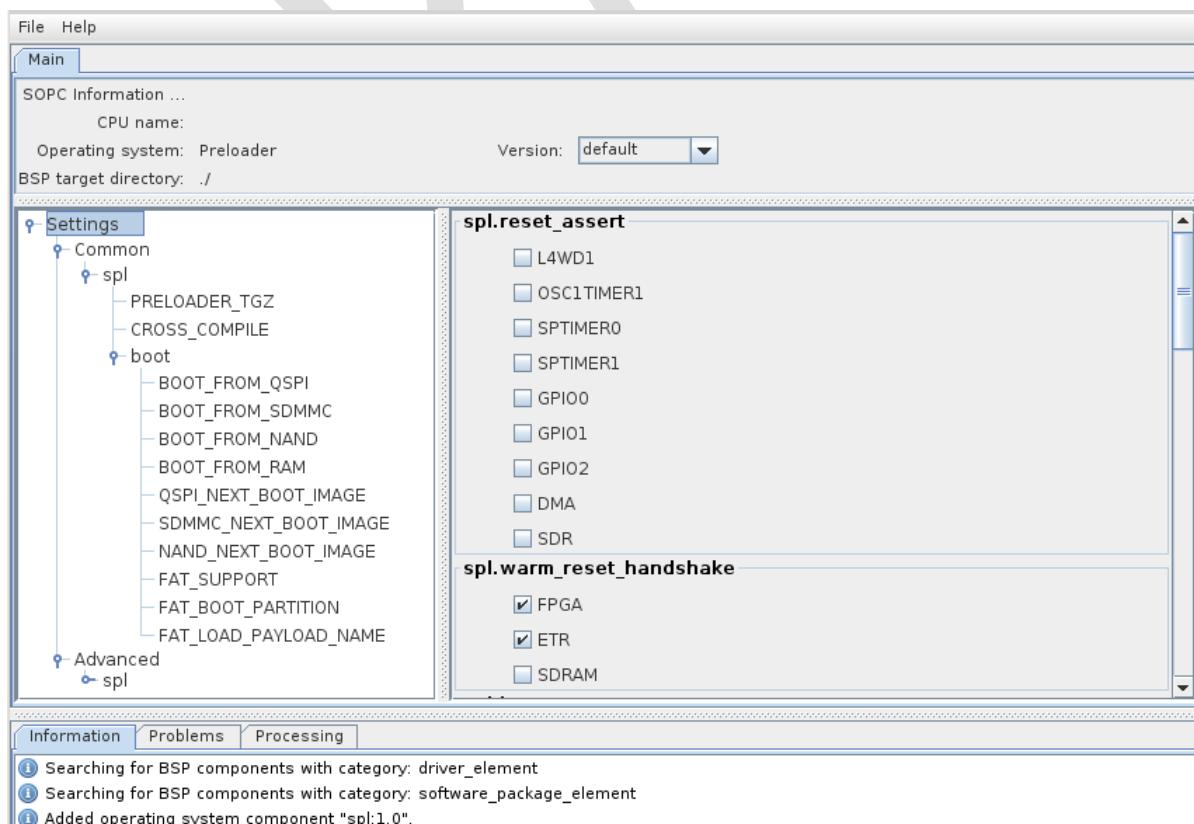

Figure 8-24. Preloader Settings Dialog
- Press the “OK” button. You should then arrive on a page with many settings, as shown on Figure 8-24. Take some time to read through them to see what the preloader has the ability to do.
12. On the main settings page of Figure 8-24, we will only need to modify 2 parameters for our design.